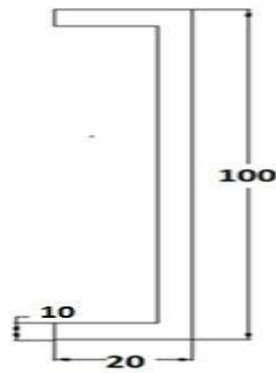

Figure 3
3. Obtain the stress distribution of an axi symmetric component shown in Figure 3. The model will be that of a closed tube made from steel. Point load of 50 KN will be applied at the centre of the top and bottom plate.